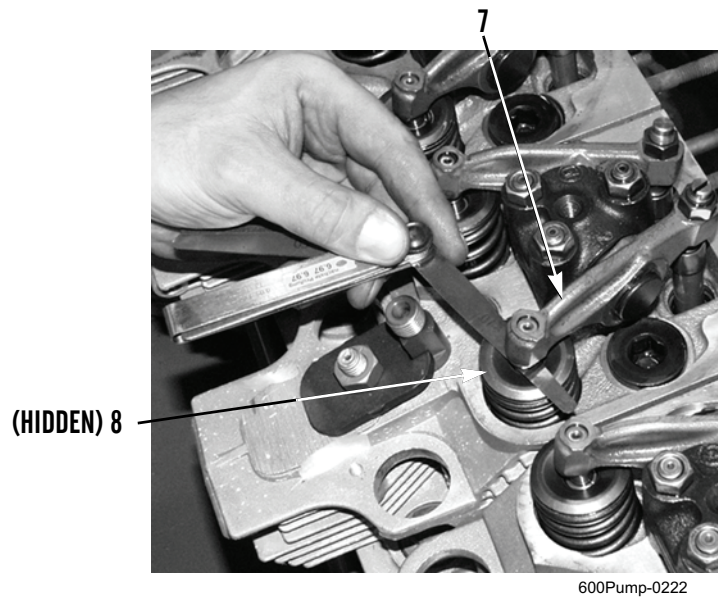

Figure 3. Measuring with Feeler Gauge.
3. Insert feeler gauge between bottom of rocker arm (Figure 3, Item 7) and top of valve stem (Figure 3, Item 8) and record measurement. Valve stem clearance specification is 0.006 in. (0.15 mm).